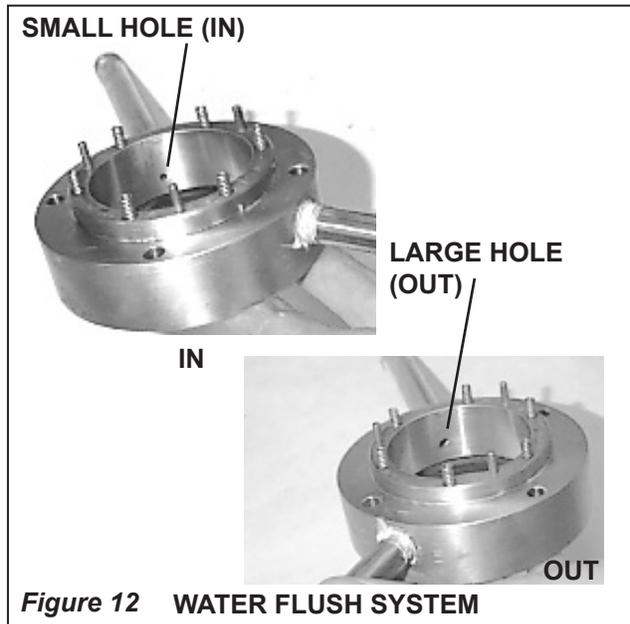

Figure 12 WATER FLUSH SYSTEM
3. Seal water to mill must be connected to gland connection marked **IN**. Inlet of gland contains the smaller hole. Outlet contains the larger hole. (See Figure 12).